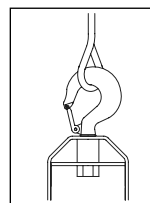

Figure 2
- Never side load, back load, or tip load a hook. (Side loading, back loading and tip loading are conditions that damage and reduce the capacity of the hook). (See Figure 2.)